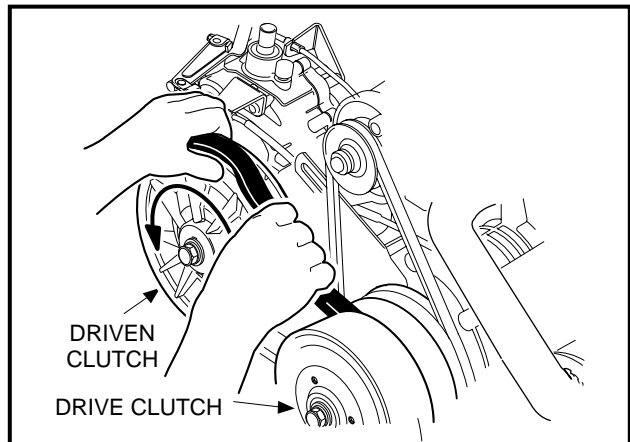

Figure 16-33 Remove Drive Belt
- 14.1. Grasp belt midway between drive and driven clutch and pull up on belt to force the driven clutch sheaves apart. Roll the belt counterclockwise while pulling it off driven clutch (**Figure 16-33, Page 16-14**).